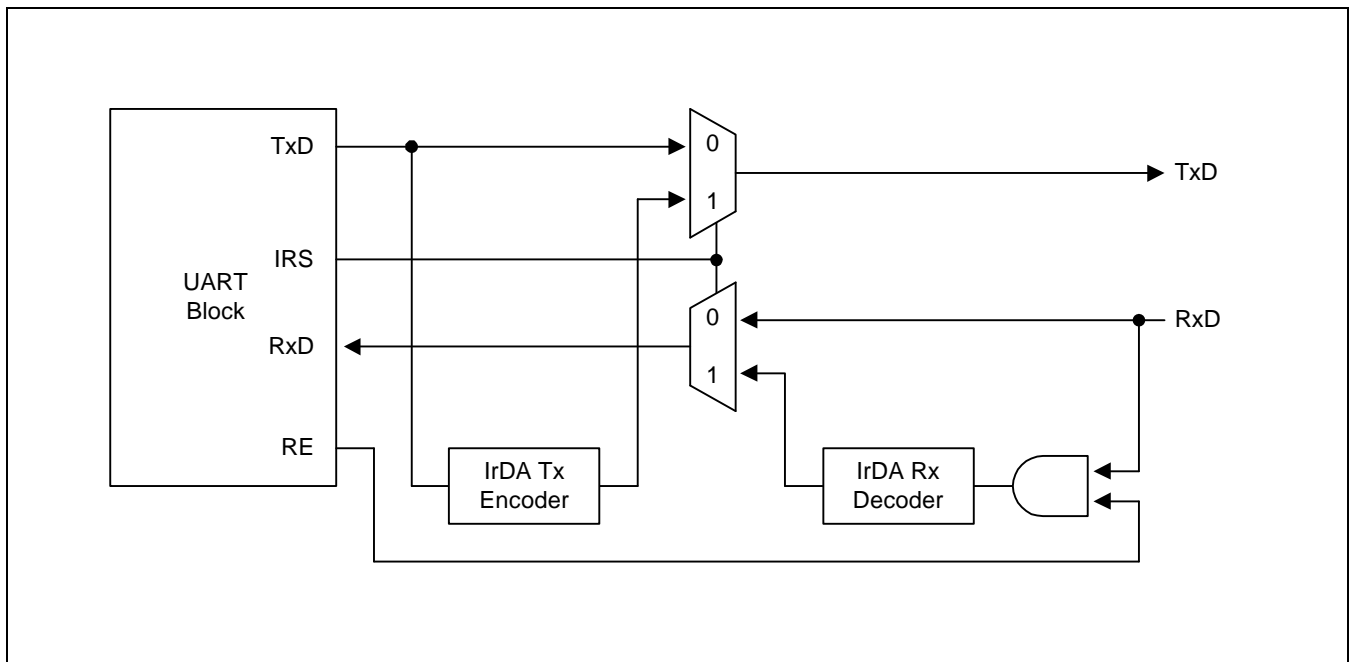

Figure 11-4. IrDA Function Block Diagram
The S3C2410X UART block supports infra-red (IR) transmission and reception, which can be selected by setting the Infra-red-mode bit in the UART line control register (ULCONn). Figure 11-4 illustrates how to implement the IR mode.